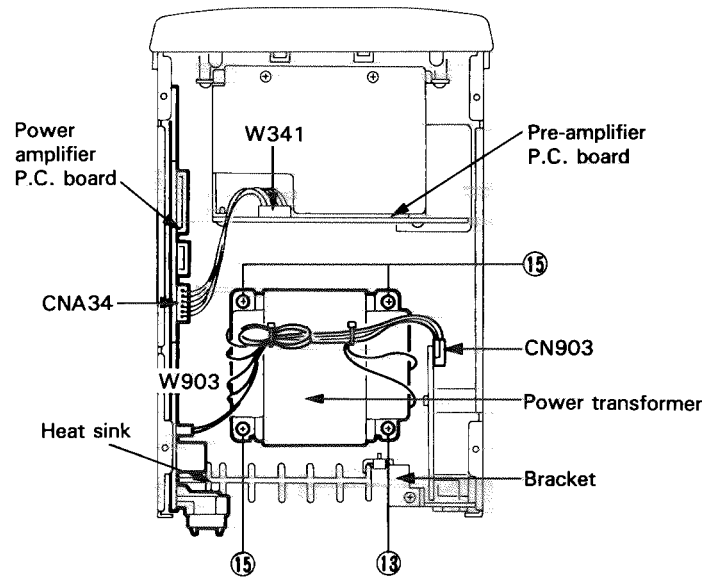

Fig. 7-14
Method of removing the power amplifier P.C. board (Refer to Fig. 7-14)
7. Remove the one screw (13) retaining the heat sink bracket on the power amplifier P.C. board (Refer to Fig. 7-14).
8. Remove the two wire treating clamps outgoing from W903 on the power transformer and power amplifier P.C. board (Refer to Fig. 7-14).
9. From the connector CN903 on the power supply P.C. board, remove the # 4 PIN connector outgoing from W903 on the power amplifier P.C. board (Refer to Fig. 7-14).
(Refer to Figs. 7-14 and 7-15)
2. Remove the four screws (15) retaining the power transformer (Refer to Fig. 7-14).